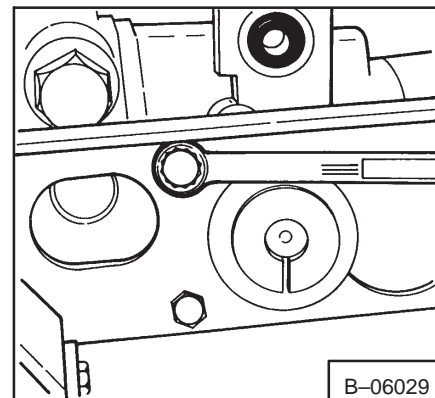

Fig. 3-21 Pintle Bar Bolt
8. Remove the bolts from the front pintle bar and remove the bar (Fig. 3-21).
5. Install the front pintle bar (Fig. 3-21). Do not tighten the bolts.